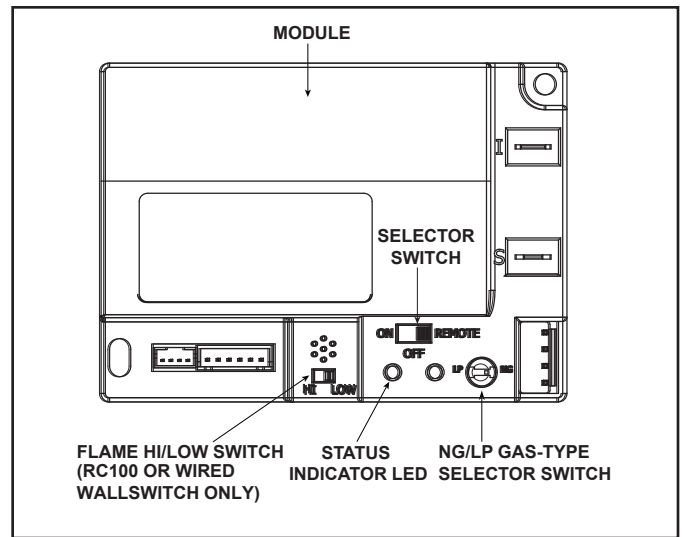

Figure 2.3 Control Module
1. The control module has an ON/OFF/REMOTE selector switch that must be set. See Figure 2.3.
2. If using a wired wall switch with the module in REMOTE mode, the flame output can be adjusted with the HI/LO selector switch on the module. See Figure 2.3. Note that the flame HI/LO selector switch will become inactive once an optional remote control (RC200/RC300) is programmed to the control module. Note that the control module will always ignite the fireplace on HI and remain so for the initial 10 seconds of operation. If the HI/LO is switched to the LO position, the flame output will automatically drop to the lowest setting after the flame has been established for 10 sec. After this 10 second period, the flame can be adjusted from HI to LO with the switch.
- Locate the module selector switch. (See Figure 2.3).
- Wait five (5) minutes to allow possible accumulated gas to clear.